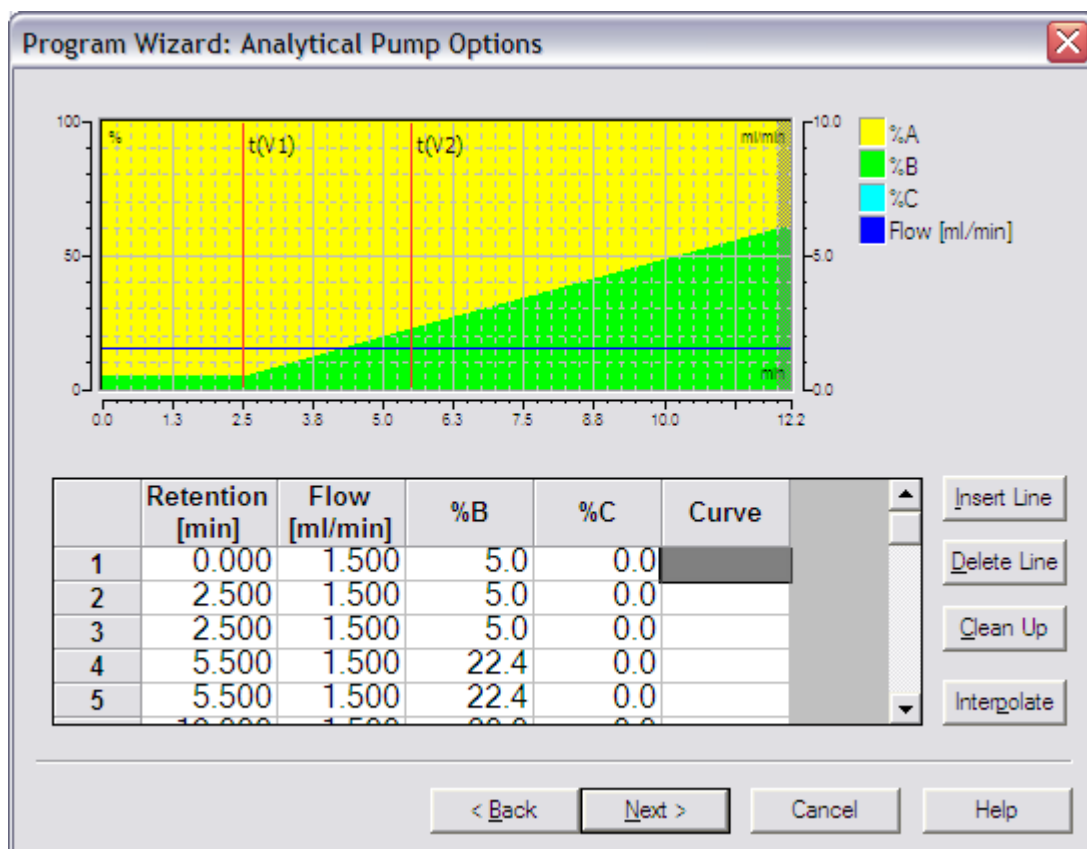

FIGURE 6-14: Program wizard – Analytical Pump options.
9. After specifying the settings described above, the gradient profile for the Analytical Pump is specified. In this example (FIGURE 6-14) the column switching times are marked as $t(V1)$ and $t(V2)$.